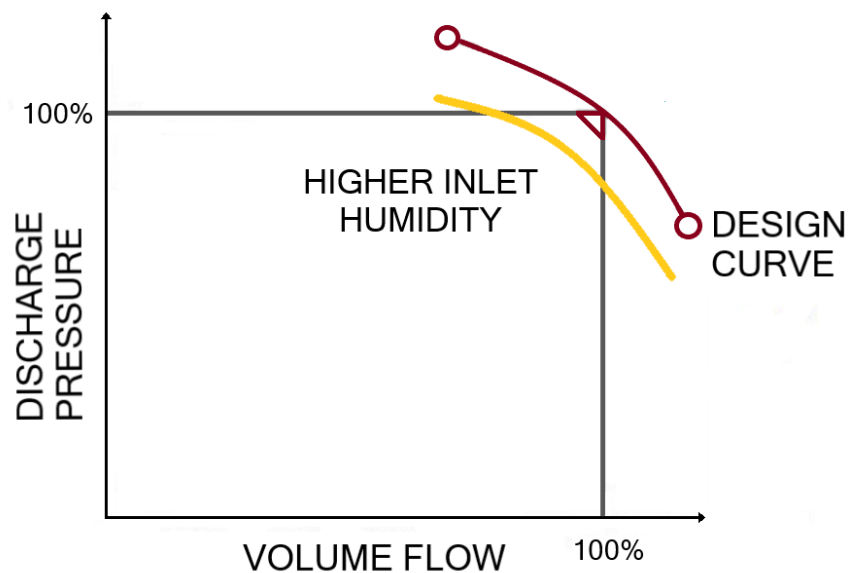

Figure 4: How relative humidity impacts centrifugal compressor performance
An increase in relative humidity (RH) reduces flow and power, and a decrease in RH will increase flow and power. The addition of water vapor to the air makes air humid and reduces the density of the air. This is due to the molar mass of water being less than that of air. (See Figure 4).